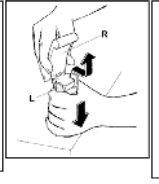

Fig. 4
- Disassemble the dispensing tap by keeping the indicated part (R) pressed down and slipping off the dispensing lever (L) (see fig.4).